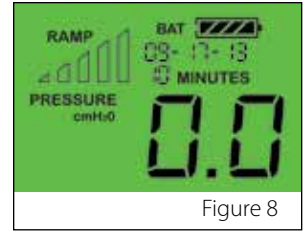

Figure 8
- After about 10 seconds, the Z1 will enter standby mode. The display will read 0.0. (Figure 8)